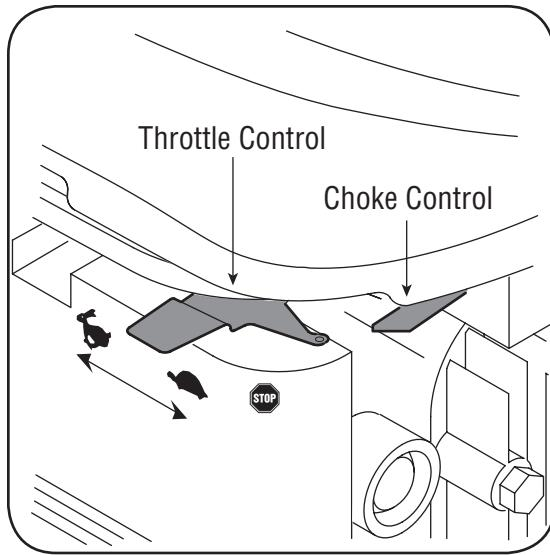

Figure 4-2
4. The throttle control is located on the engine. Move engine throttle control lever to FAST or ON position. See Figure 4-2.
Move choke lever on engine to CHOKE position. (A warm engine may not require choking). See Figure 4-2.